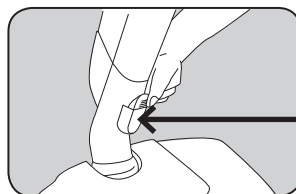

Fig. 3
1. Removing the wand from the power nozzle allows you to use cleaning tools for baseboard or ceiling cleaning. Turn the power nozzle and canister off. Then press the wand release button and pull the wand out (Fig. 3).